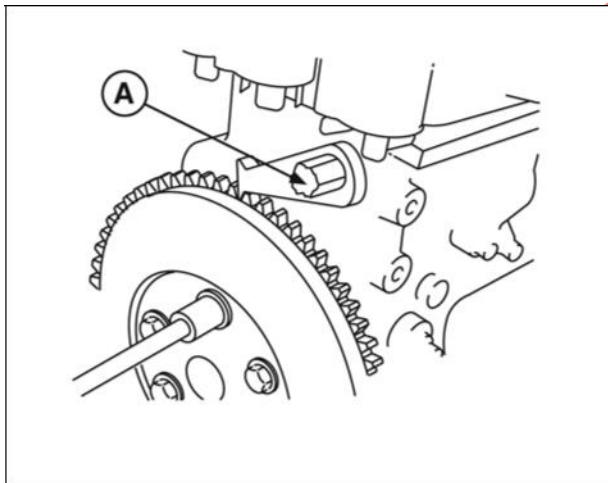

Figure 2
4. Install Flywheel Holder #19418 (A, Figure 2).